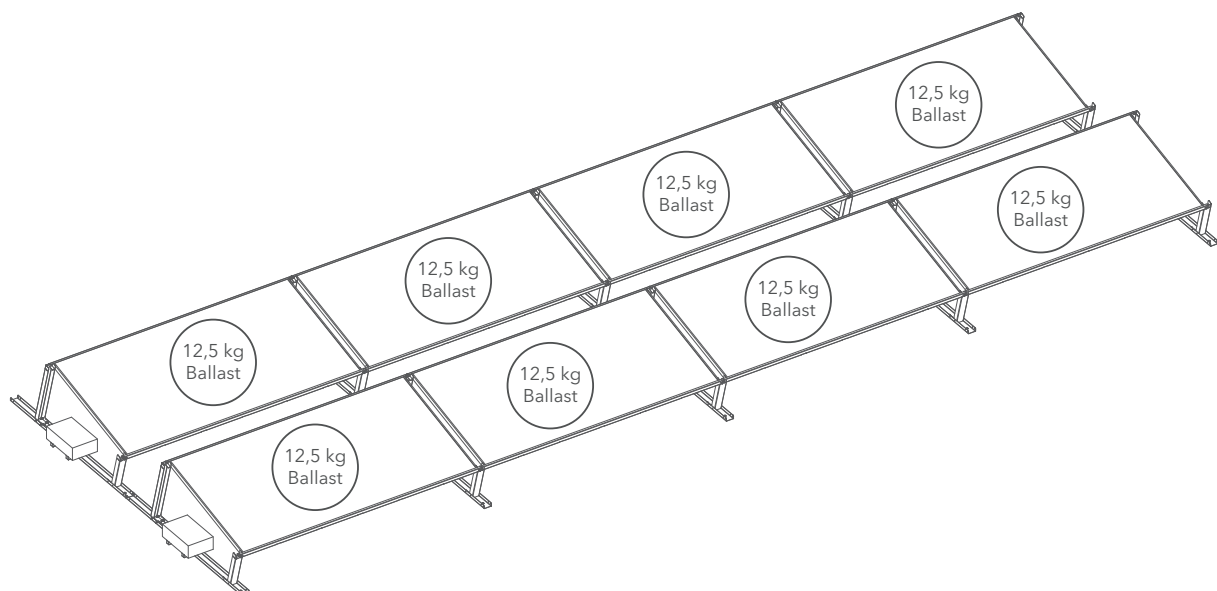

Fig. 7. distribution of the ballast for two rows of photovoltaic modules
- 7** Two rows of PV panels result in a ballast amount of 12.5 kg per panel (Fig. 7).